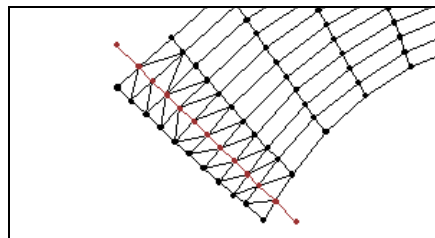

Figure 3-18 The breakline has been inserted.
3. Select *Elements | Add Breaklines*. The elements will be split along the nodestring, as shown in Figure 3-18.